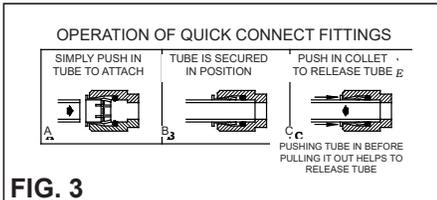

FIG. 3
11. Connect fountain to supply line with a shut-off valve and install a 3/8" unplated copper water line between the valve and the fountain. Remove any burrs from outside of water line. Push the tubes straight into the fittings until they reach a positive stop, approximately 3/4" (See Fig. 3). **DO NOT SOLDER TUBES INSERTED INTO PLASTIC FITTINGS AS DAMAGE TO THE O-RINGS MAY RESULT.**